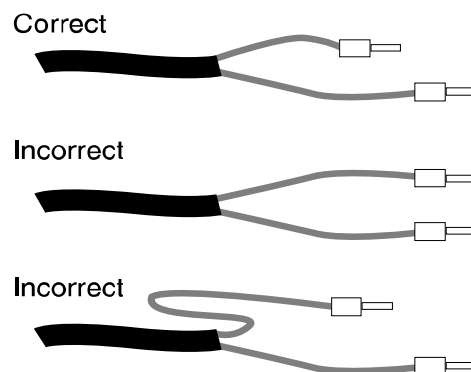

Figure 2–10 Pulling preterminated fiber optic cables
1. Run conduit (3/4 inch (19 mm)) for the fiber optic cables from the main and remote unit mounting brackets to the appropriate access panels on the monopole. For the correct connection locations on the main unit chassis, see Figure 2–8 on page 2-10 and for the remote unit mounting bracket, see Figure 2–9 on page 2-10.
2. Run conduit (3/4 inch (19 mm)) for the fiber optic cables from the main and remote unit mounting brackets to the raceway. For the correct connection locations on the main unit chassis, see Figure 2–8 on page 2-10 and for the remote unit mounting bracket, see Figure 2–9 on page 2-10.
If a remote unit is mounted so that the cabling path is not accessible, use a pulling eye kit to pull the cable from the remote unit. Be sure to use proper cable pulling techniques, as specified by the cable manufacturer. In addition, for preterminated cables see Figure 2–10. Label the cables at the main unit to indicate the remote unit and RF module to which each cable is or will be connected.
1. Locate the fiber optic conduit entrances on each of the remote unit mounting brackets. For the location of the fiber optic conduit entrances on the mounting brackets, see Figure 2–9 on page 2-10.